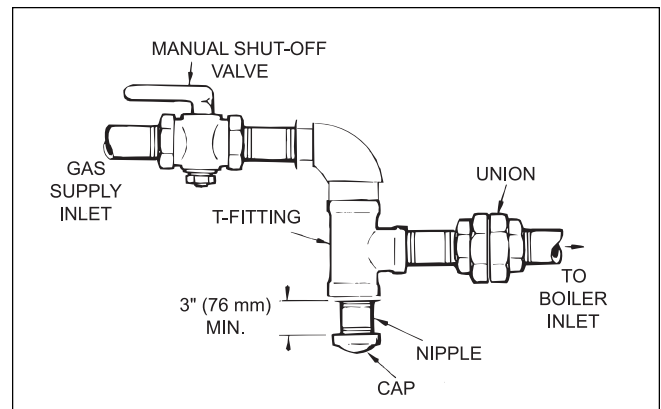

Figure 24. T-Fitting and sediment trap.
5. Install a sediment trap (drip leg) ahead of the gas controls (see Figure 24). Fit the trap with a threaded cap which can be removed for cleaning.